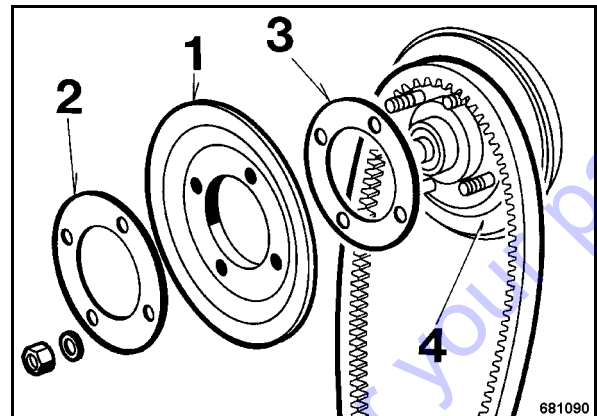

Fig. 50
- Take off the front V-belt pulley half (1) (Fig. 50) with the shims (2) positioned in front.
- Take one or two shims (3) from in front of the rear V-belt pulley half (4) as required to tension the V-belt.